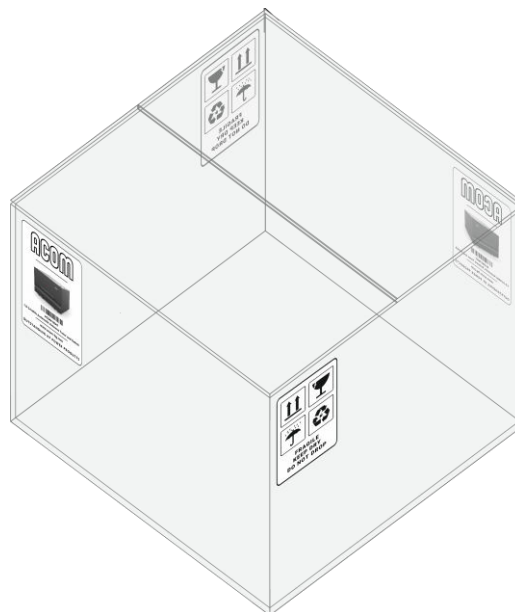
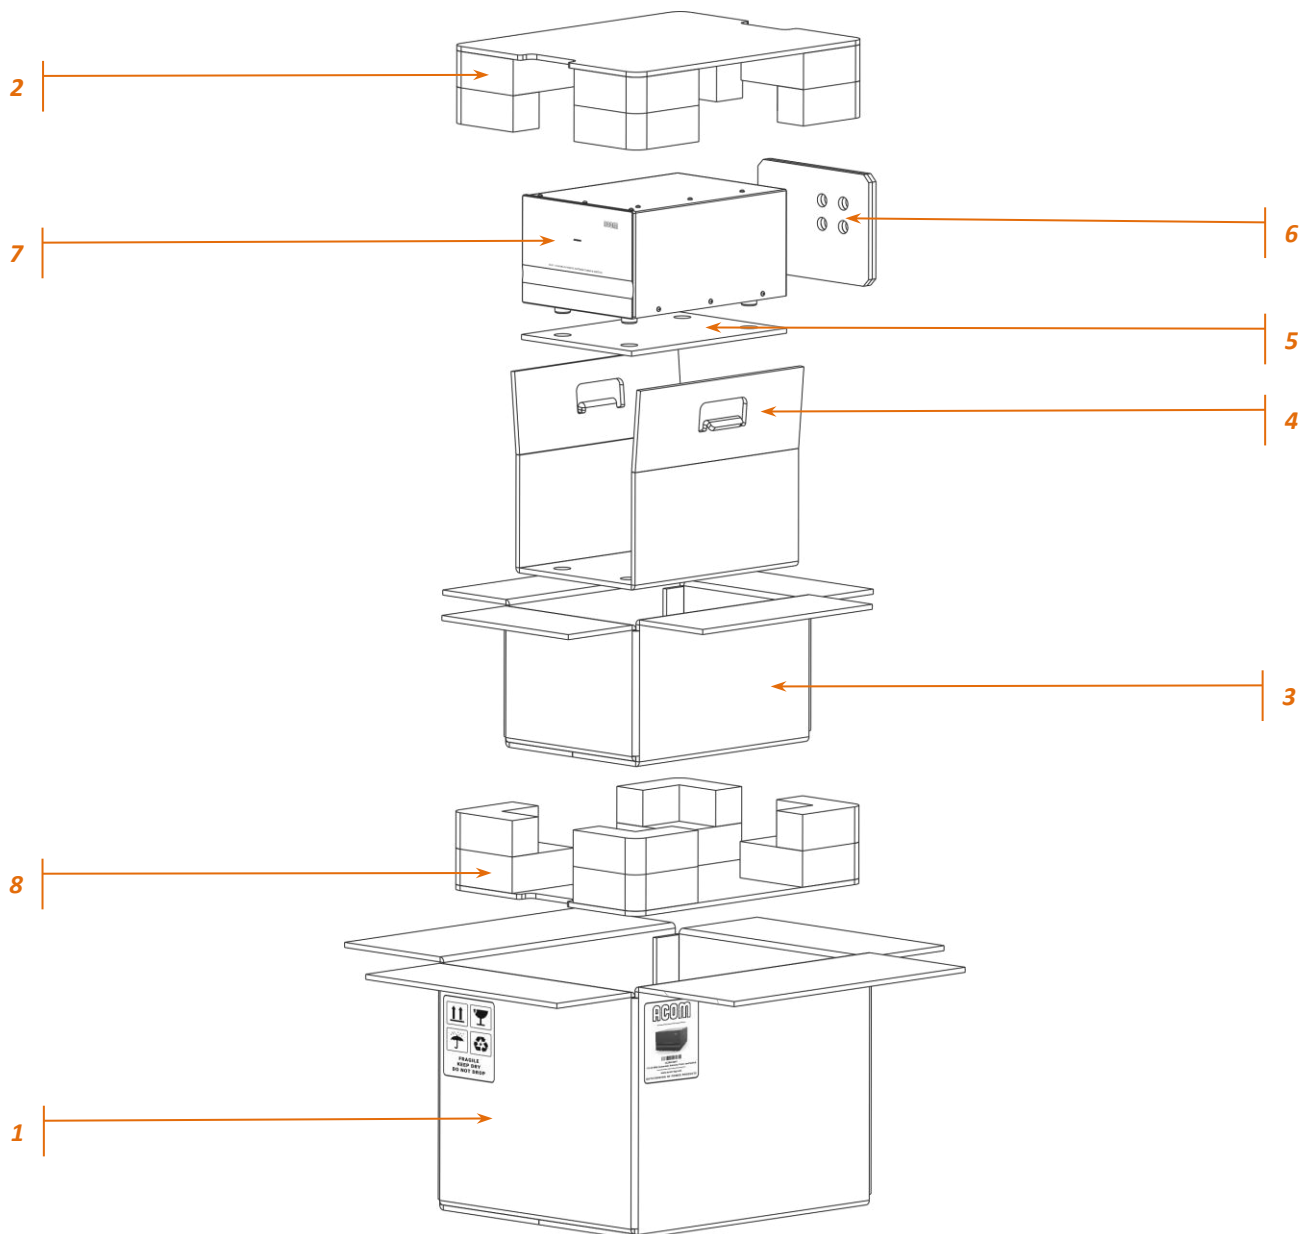

Figure 2-1 | Packaging carton (outside view)
Figure 2-2 | ACOM 06AT packaged in a cardboard box
- Open the cardboard carton (see Figure 2-1 | Packaging carton \(outside view\) and Figure 2-2 | ACOM 06AT packaged in a cardboard box, Pos. 1);
- Take out the top secure element (see Figure 2-2 | ACOM 06AT packaged in a cardboard box, Pos. 2);
- Open the internal cardboard carton (see Figure 2-2 | ACOM 06AT packaged in a cardboard box, Pos. 3);
- Take out the tuner using handles of the middle secure element (see **Figure 2-2 | ACOM 06AT packaged in a cardboard box**, Pos. 4);
- Take out the tuner (Pos. 7) from the middle secure element and remove bottom and rear flat secure elements (see **Figure 2-2 | ACOM 06AT packaged in a cardboard box**, Pos. 5 and 6);
It is not necessary to take out the bottom secure element (see **Figure 2-2 | ACOM 06AT packaged in a cardboard box**, Pos. 8).